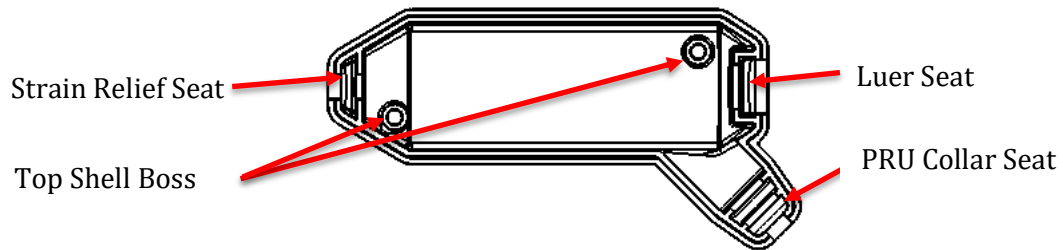

Figure 15: Epoxy adhesive application layout for Housing, Bridgeboard, Top Shell
7.11.8 Apply epoxy adhesive with applicator or equivalent EFD dispensing equipment within the indicated locations of the Bridgeboard Housing Top Shell in Figure 15.